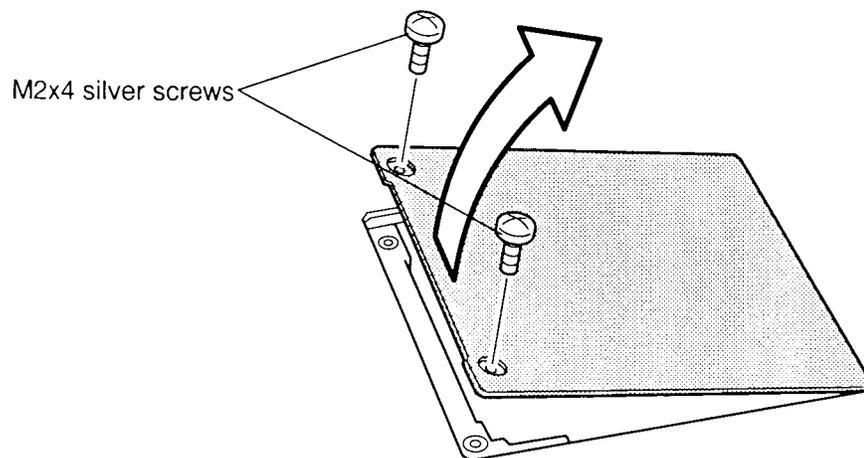

Figure 4-4 Removing the memory module socket cover
To remove an optional memory module from the T2150 series, follow the steps below and refer to figures 4-4 and 4-5.
4. Secure the **two M2x4 silver screws** (figure 4-4).